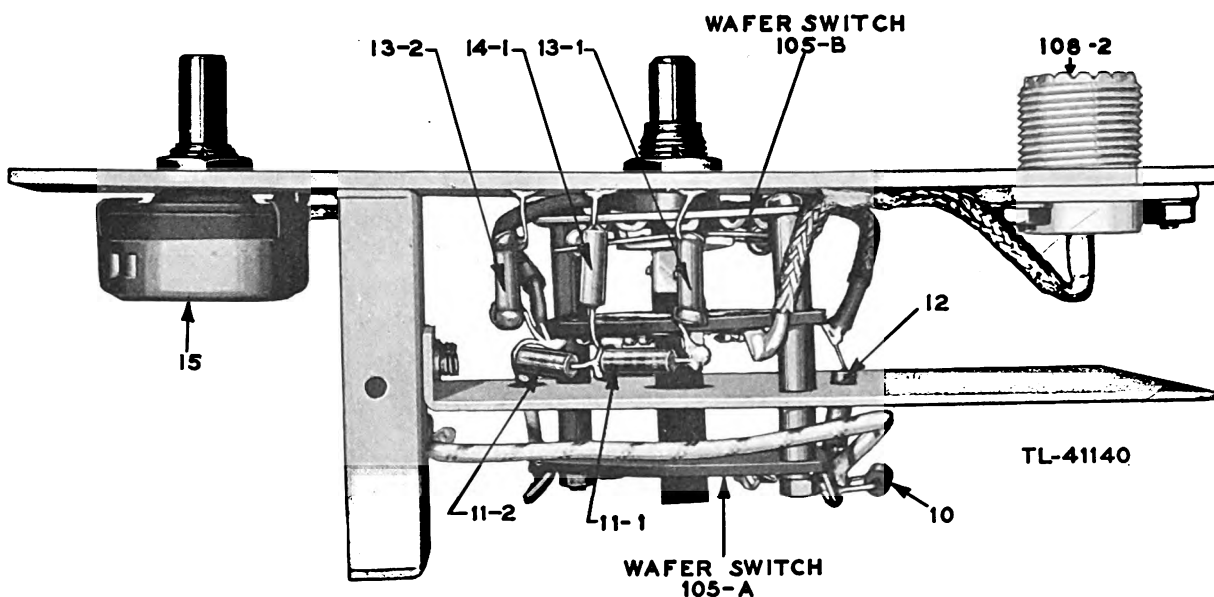

Figure 16. Signal Generator I-222-A, attenuator assembly removed from housing.
(13) To replace switch 105A — B, remove the attenuator assembly case from the front panel as described in paragraph 11a (2). Remove the two screws on the side of the case. Lift the attenuator assembly from the case (fig. 16). Remove the nut and washer from the switch shaft. Unsolder the wires and remove the switch. Assemble in reverse order.